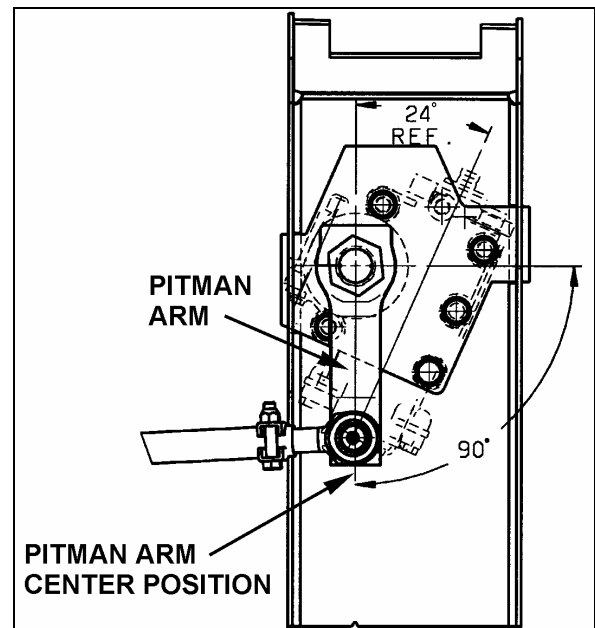

FIGURE 6: PITMAN ARM ALIGNMENT 14037
2. Afterwards, the pitman arm should be adjusted with reference mark aligned or to an angle of 90° in relation with the horizontal axis (Fig. 6).